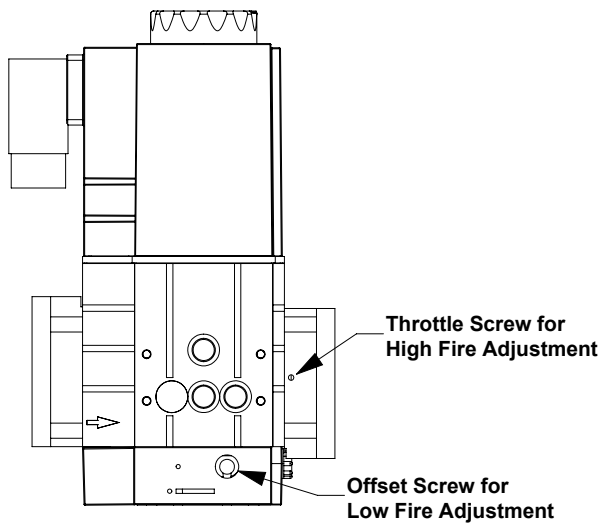

Figure 26: Gas Valve Air-to-Fuel Adjustment
- d. If high fire O₂ is too high (CO₂ is too low), decrease O₂ (increase CO₂) by turning the throttle screw towards the "Plus (+)" sign in 1/4 turn increments and checking the O₂ (or CO₂) after each adjustment. Refer to Figure 26 for location of throttle screw. Verify CO air free is less than 200 ppm.